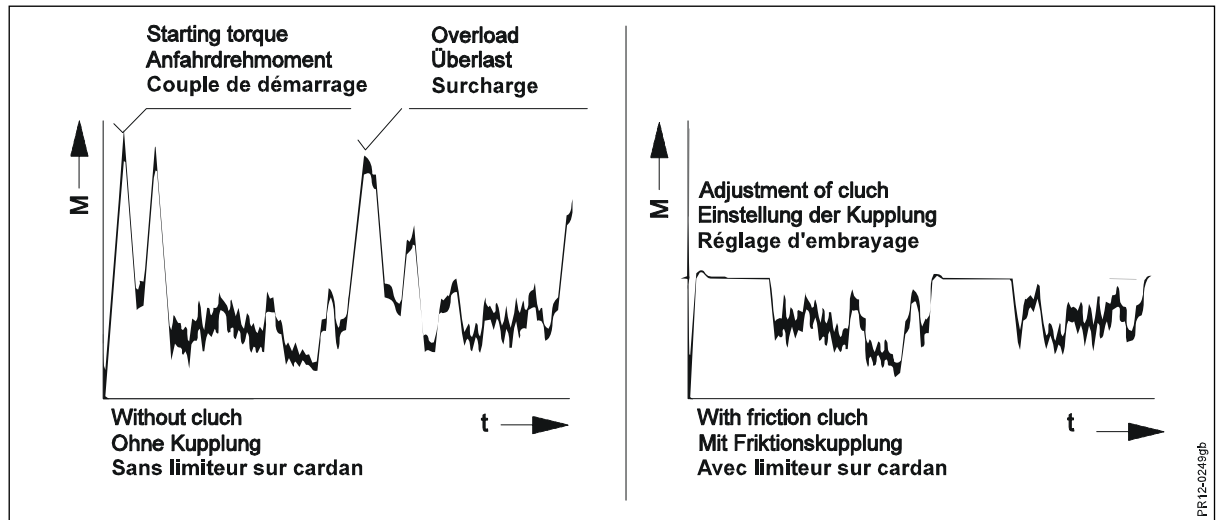

Fig. 7-2
**Fig. 7-2** To ensure a long life for your tractor and machine, the machine is supplied with a **friction clutch** on the front PTO shaft. The figure illustrates how the clutch protects the transmission against high torque peaks and at the same time is capable of transmitting the torque while it is operating for short periods (slips).